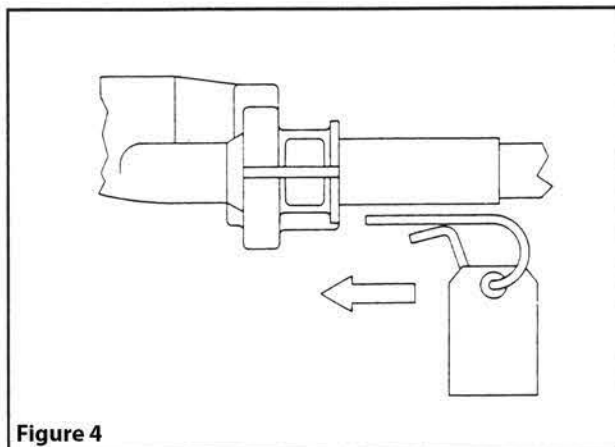

Figure 4
5. Replace the pin as shown in figure 4, making sure that it is fully seated. **DO NOT REMOVE TAG FROM PIN.**
5. Replace the pins as shown in figure 4, making sure that they are fully seated. **DO NOT REMOVE TAGS FROM PINS.** If one pin cannot be inserted, that cable is not fully seated in the QC Converter. Push on this cable to ensure that it is fully home and reinsert pin.